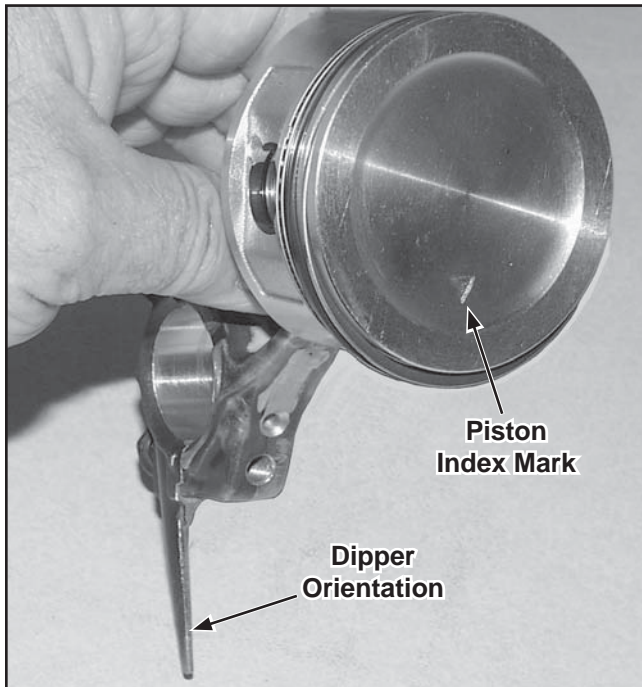

Figure 11-21. Piston/Connecting Rod Orientation.
- a. The locating mark on the piston is down. See Figure 11-21.